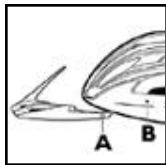

FIGURE 16
2. To replace the visor, center it on the helmet and then snap the pins (A) on the visor into the holes (B) in the helmet (Figure 16).